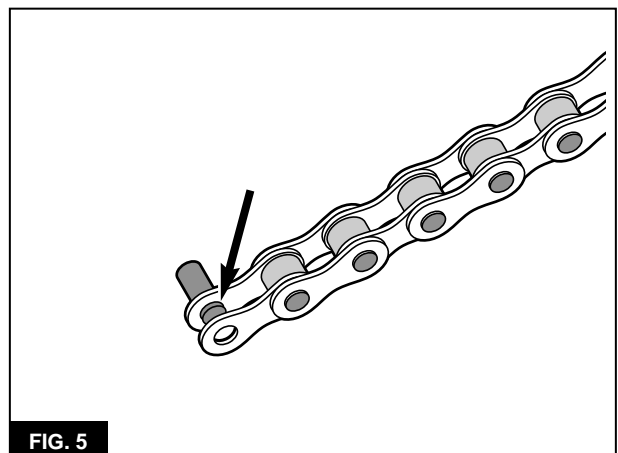

FIG. 5
*The rivet should be pressed the minimum distance necessary to separate the chain and no more. Do not drive the rivet completely from the inner plate on the inboard side of the chain. The chain can be separated once the rivet extends 0.5 to 1.0 mm into the inside of the inner chain plate. See **Figure 5**.*